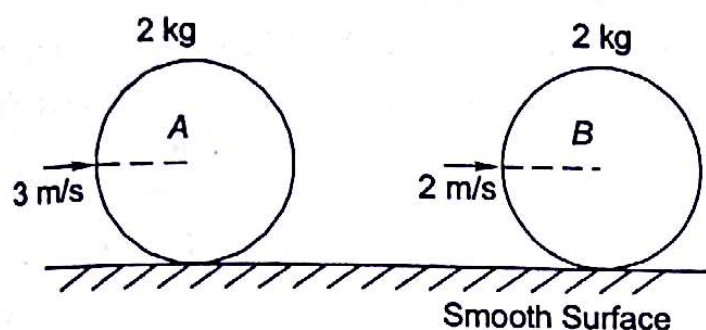

Fig. 21.15
- 21.1 Two steel balls of masses 2 kg each collide with each other with initial velocities of 3 m/s and 2 m/s as shown. If impact is perfectly elastic, what is the velocity of ball A after impact (Fig. 21.15)?